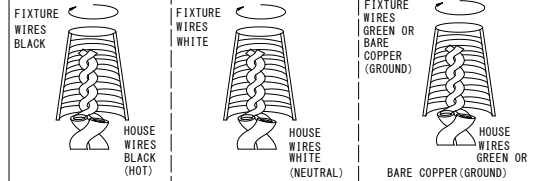

Fig. 3
8. Align back plate (G) onto screws (D) and secure with silicone gasket (J) and cyliindroid nuts (H).
9. Attach (4) four square candle sleeves over the sockets then press them onto the bottom square bump.
10. Install (4) four candelabra base bulbs up to 60 watts or CFL or LED equivalent (not included) in accordance with the fixture specification. **DO NOT EXCEED THE MAXIMUM WATTAGE RATING! (NE PAS DEPASSER LA PUISSANCE NOMINALE MAXIMALE!)**
11. To prevent moisture from entering the outlet box (C) and causing a short, use clear silicone sealant (i.e. Indoor/Outdoor Silicone Sealant) to outline the outside of fixture back plate (G) where it meets the wall leaving a space at bottom to allow moisture a means to escape. (Fig.3)